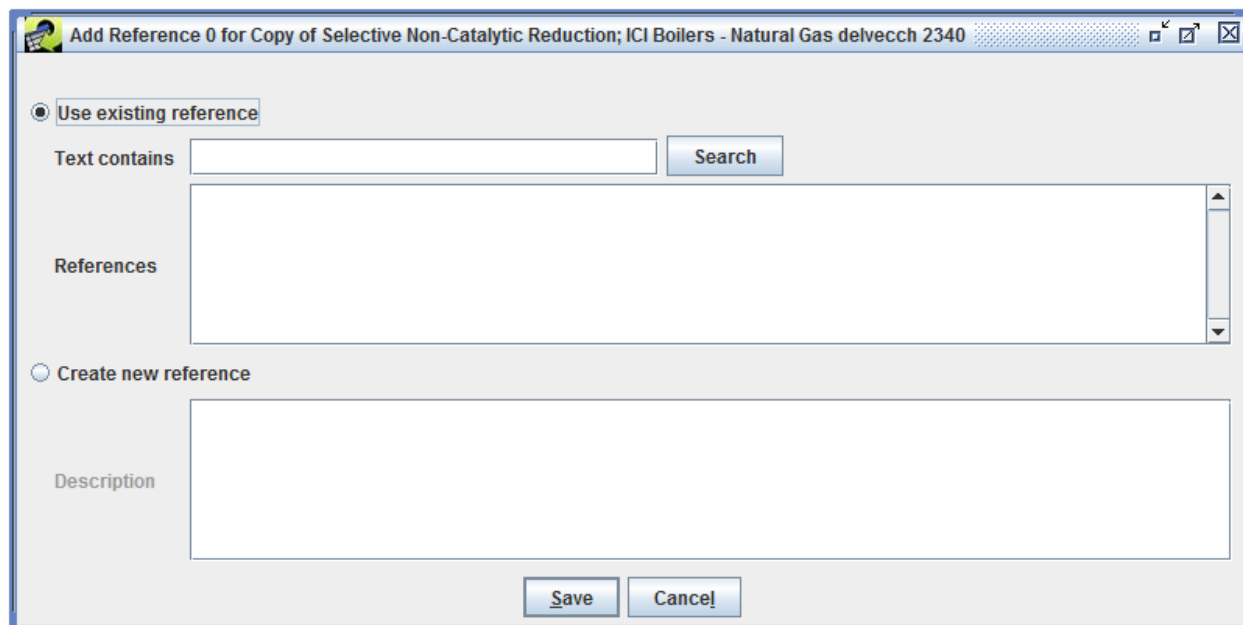

Figure 3.27: Add Reference Record Window
Step 4-19: Adding Control Measure References. To add a new reference for a control measure, click **Add** in the **References** tab, and the **Add Reference Record** window will appear (Figure 3.27). Either choose a reference that already exists in the database, or add a new reference.